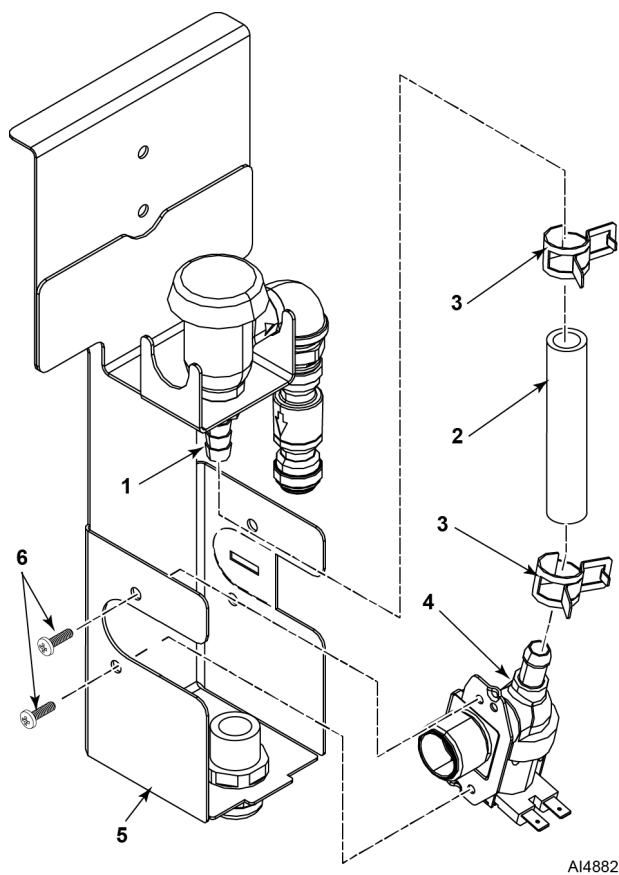

Fig. 12
B. Install hose (2, Fig. 12) on hose fitting (1).
C. Slide a hose clamp (3, Fig. 12) on hose (2) to secure on hose fitting (1).
D. Slide another hose clamp (3, Fig. 12) on to hose (2)
E. Place valve (4, Fig. 12) outlet port in hose (2).
F. Use hose clamp (3, Fig. 12) to secure valve (4) in hose (2)
G. Place valve (4, Fig. 12) in DWT bracket assembly (5) and secure in place with screws (6).